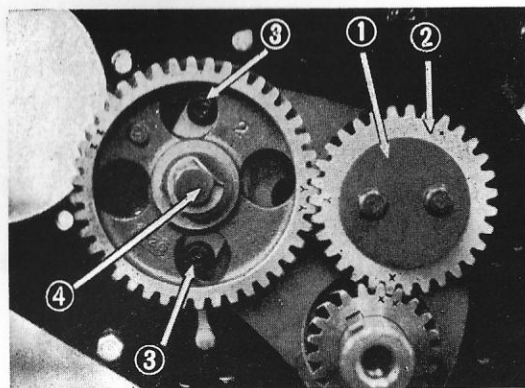

Fig. 4-46
- (1) Remove the timing gear case assembly.
- (2) Remove the idle gear thrust collar (1) and then, remove the idle gear (2).
- (3) Remove the camshaft and thrust collar set bolt (3).
- (4) Carefully remove the camshaft (4) together with the gear. (Fig. 4-46) (Push rod and tappet should be removed before the camshaft is removed.)